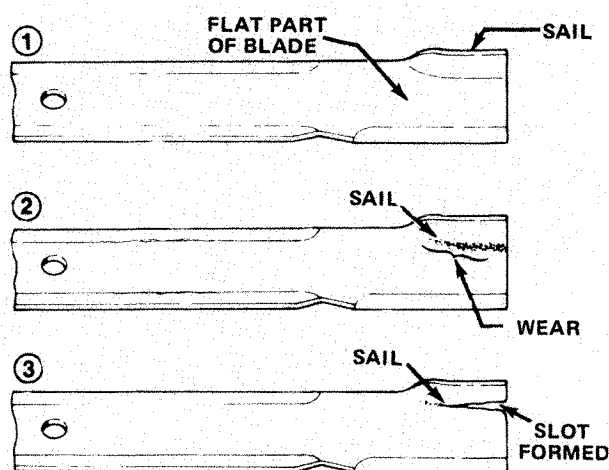

Figure 14
1. Check to make sure front height-of-cut pins are resting properly on frame cushions (Fig. 14).